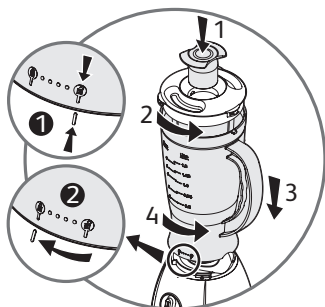

fig.3
- Fit the lid (B) to the mixer jug (C) and lock it by positioning it on the holes opposite the spout (figure 3).
Introduce the measuring cup (A) into the lid and press into place (figure 3). You are advised to hold the lid during operation.
- Place the mixer jug (C) on the body of the motor unit (D). The lock (open)  is aligned in the slot on the motor unit (figure 3).
- Then rotate the mixer jug (C) through a turn the lock (closed)  appears (figure 3).
- Dice all the ingredients before putting them into the mixer jug (C). It is best to start with liquids, without going over the maximum level shown on the jug (1.5L).
- Connect the appliance and start up by turning speed selector (E) to "Pulse," "1," or "2".
- To stop the appliance, bring the speed selector (E) to "0".
- Wait for the appliance back to a complete stop before removing the mixer jug (C).
- Remove the mixer jug (C) by unlocking it in opposite direction to installation.